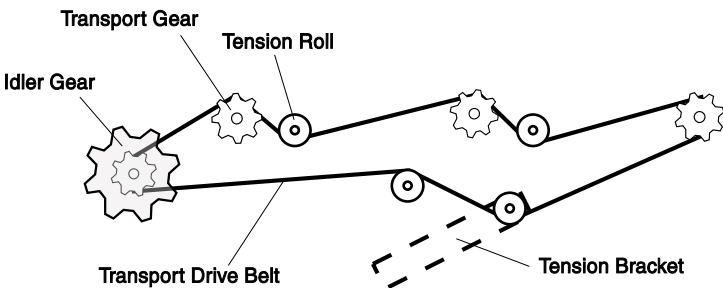

Figure 3
5. Route the Drive Belt as shown in figure 3, with the ribbed side of the Belt always facing a Transport Gear.